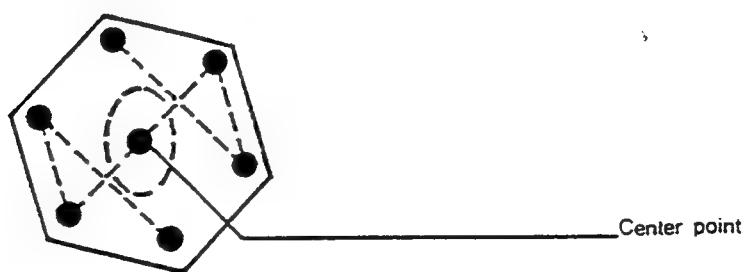

Fig. 15 Matrix Vector Diagram.
- (d) Channel 2 (Y) is connected to TP207 (pin 22 of IC202) (B - Y)
- (e) Adjust amplitude balance VR202 until the centre points of the two wave forms bring together (Fig.15.)
- (f) Adjust T205 until all other points of two waveforms bring together (Fig.15.)